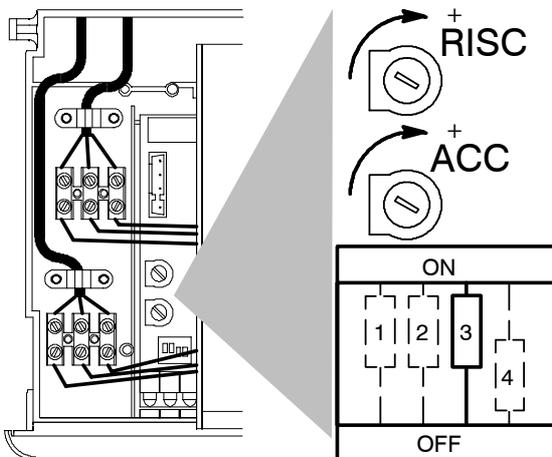

Fig. 7.8
- 14 Check the ignition gas pressure by setting dip-switch "3" (Fig. 7.8) to the OFF position. Compare the value on the gauge with the value indicated in the sections 4.4 or 4.5 (gas pressures at the burner), accordingly with the model of boiler installed.
6 Check that the boiler lights up uniformly and adjust the ignition gas pressure, if necessary. To adjust the ignition gas pressure, set dip-switch "3" (Fig. 7.8) to the OFF position and adjust potentiometer marked "ACC" with a screwdriver until correct ignition gas pressure is obtained.
With the boiler operating in c.h. mode, use a suitable screwdriver to turn the adjustment potentiometer marked "RISC" (Fig. 7.8). Rotating the potentiometer anti-clockwise reduces the maximum supply current to the gas modulator device, and thus reduces the gas pressure to the burner.